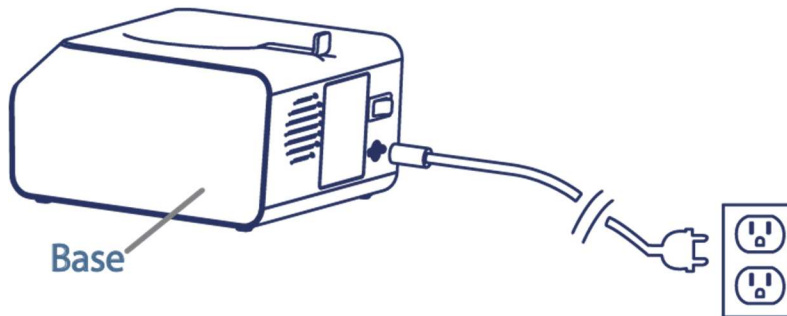

Figure 7 – Power Connection
3. With the Base in position, plug the Power Supply Adapter into the power plug on the back of the Base, then plug the power cord into the wall. Ensure that the Power Supply Adapter and the power cord are positioned such that they will not become a tripping hazard (Figure 7).